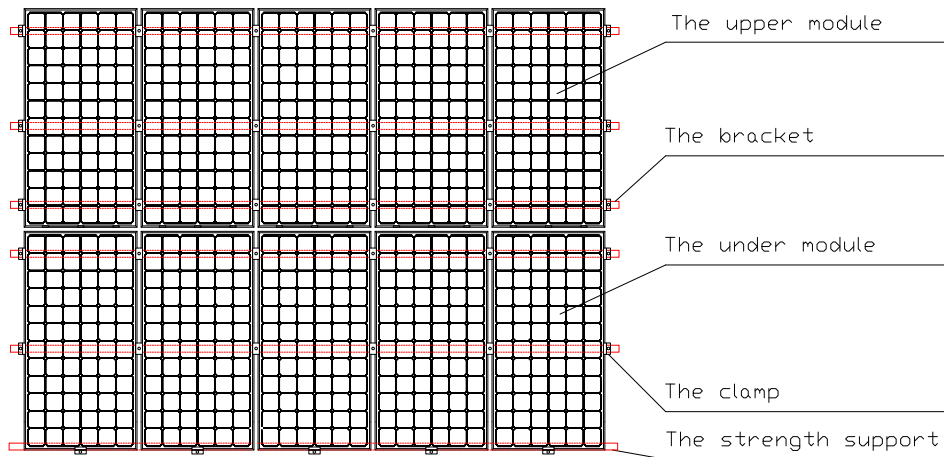

FIG 3 Schematic diagram of reinforcement mounting of module
- ✚ Notice: For the roof system installed in the area that ever experienced relatively heavy snowfall or snow cover, the customer shall reinforce the mounting system at the lower frame of the module, in order to prevent the lower frame from being pressed and damaged by the falling snow, and avoid the module damage due to melt snow freezing in daytime. VSUN suggests to selecting the support reinforcing mechanism shown in Figure 3.